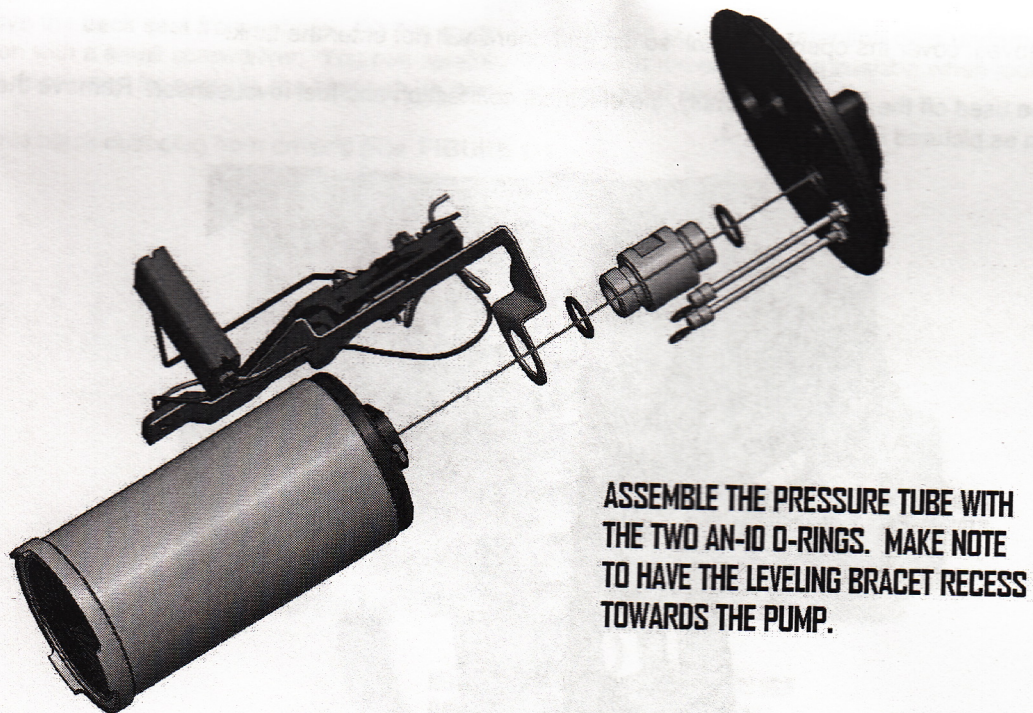

FIGURE 1-5
12. Now it's time to assemble your Aeromotive Stealth fuel pump! Use the figure below to assemble your fuel pump. **FIGURE 1-5**.